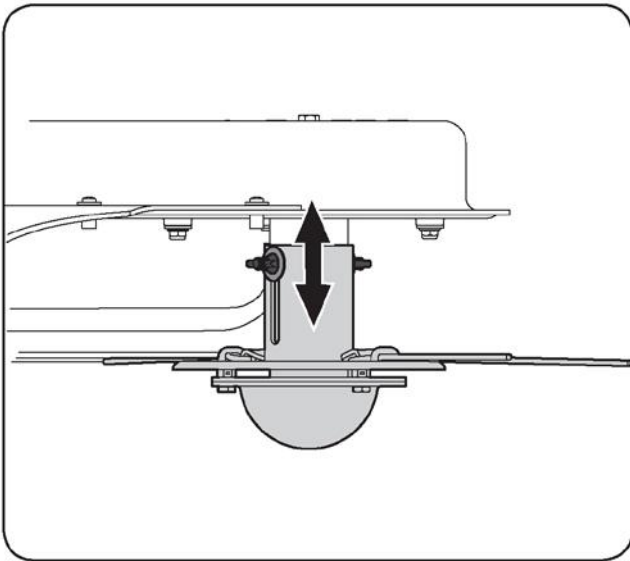

Figure 5-1
2. Slide the spindle up and down to the desired position before retightening the airfoil nut. See figure 5-1.